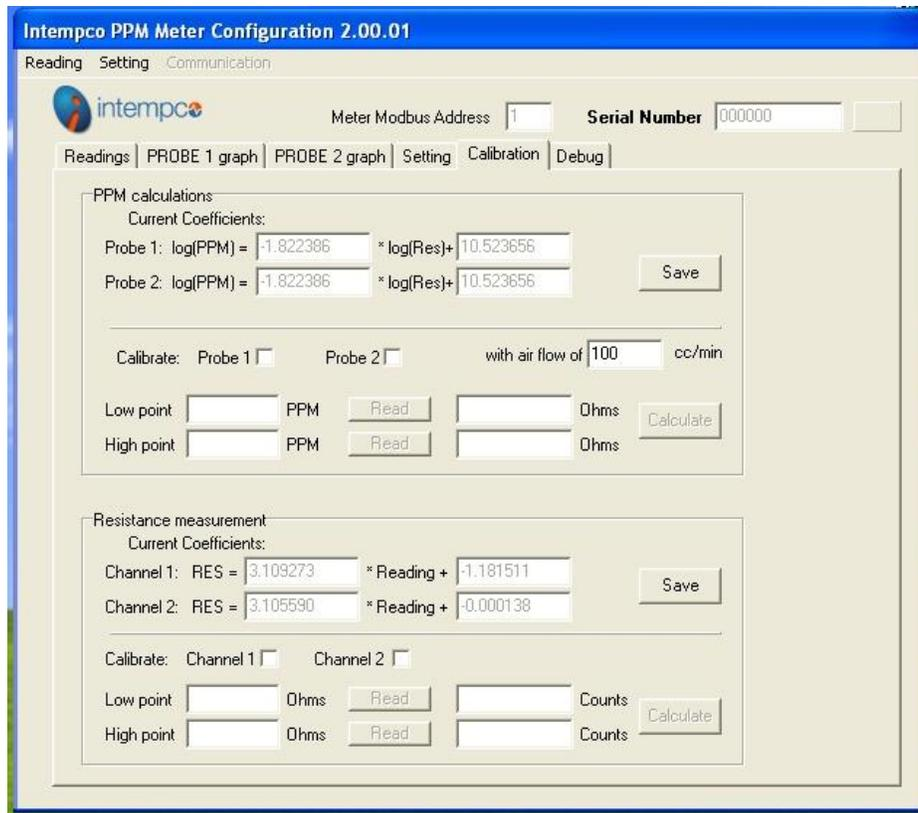

Fig. 29
Select the "Calibration" tab. The current resistance measurement coefficients for both channels are displayed on the bottom of the screen (figure 29).
- Select 'Channel 1' (see figure 29),